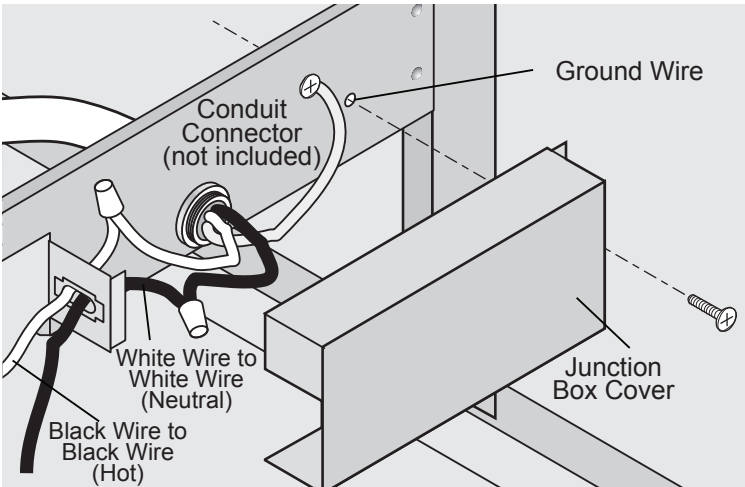

Figure 15
3. Inside junction box, attach ground wire under head of grounding screw and tighten. **See Figure 15.**
5. Replace junction box cover. **See Figure 15.**